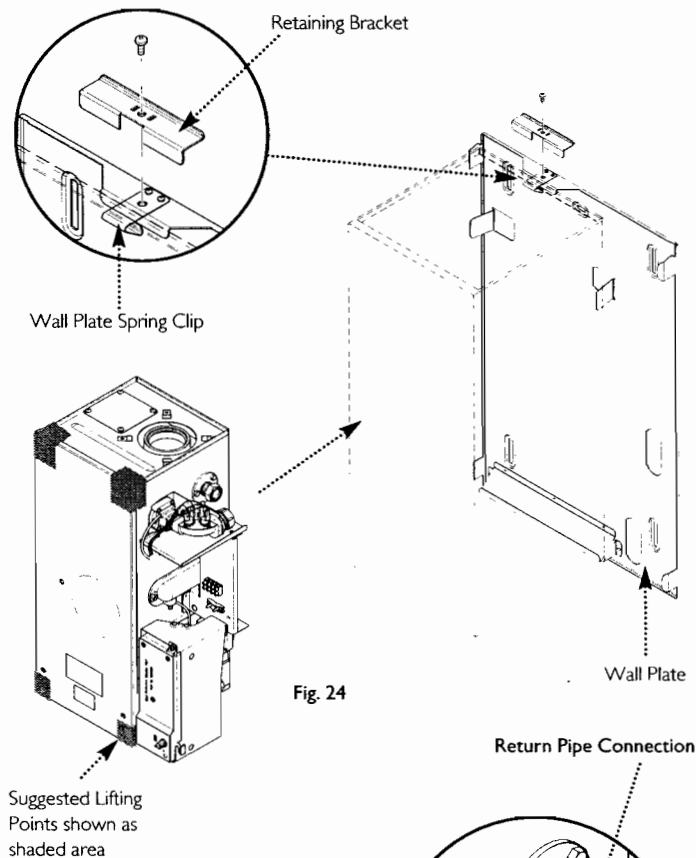

Fig. 24
8.3 Fitting The Boiler (Fig. 24)
2. Offer up the boiler to the wall plate using the lifting points shown in Fig. 24 and locate the rear bottom edge onto the self locating support at the base of the wall plate. (See Lifting paragraph page 4.)
NOTE: When installing in Loft/Small Compartment access for lifting the boiler from the front can be gained for two people using the lifting points. (Fig. 24).